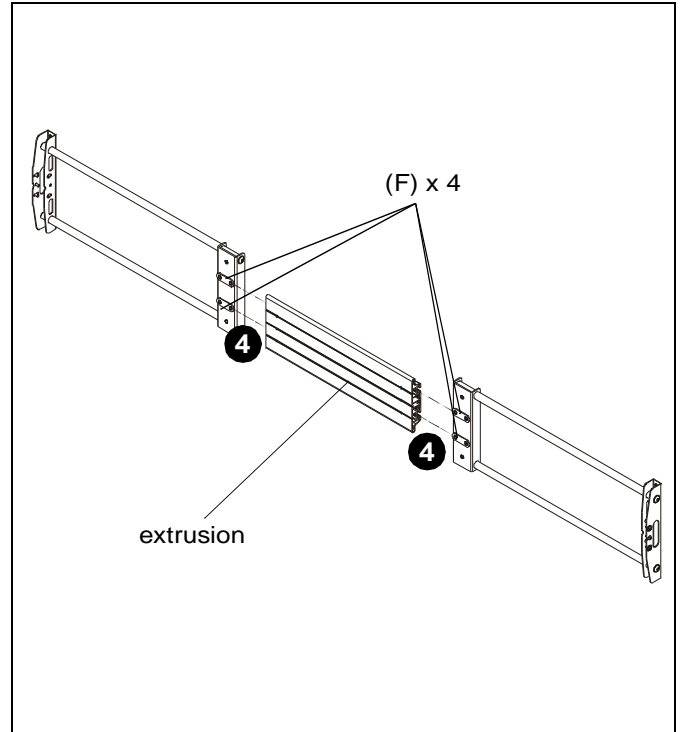

Figure 9
IMPORTANT ! : Do NOT tighten at this time. Leave enough space between studs and brackets so that studs can slide into cart extrusion slots. (See Figure 9)
4. Slide t-slot studs (F) into grooves on back of extrusion until desired mounting positions are reached. (See Figure 9)